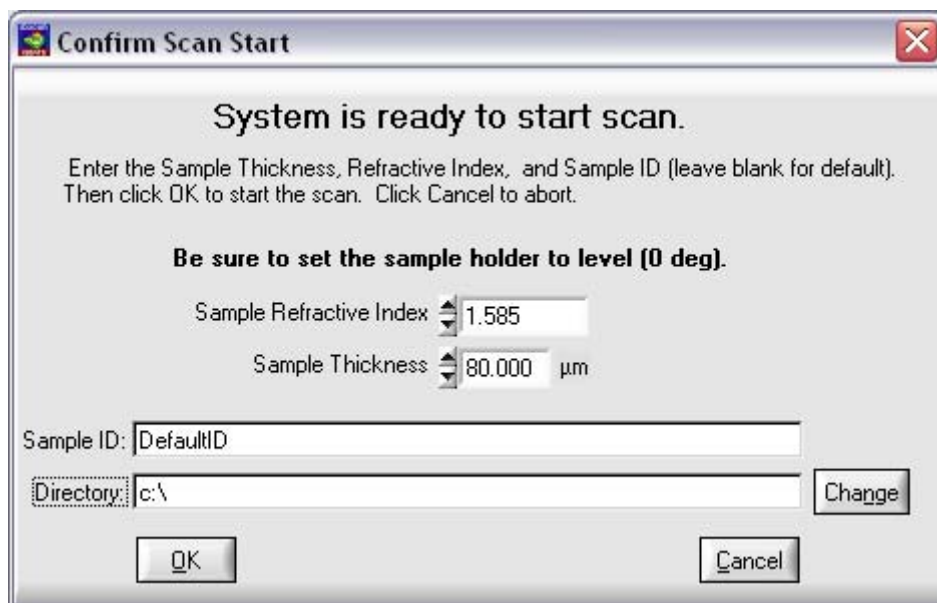

Figure 4.24 Confirm Scan Start Dialogue Box
2. After the hardware is ready to scan, the Confirm Scan Start dialog box appears as shown in Figure 4.24. Enter the sample ID, or leave it blank for "DefaultID", as described later in this chapter.
You can change the colors associated with various ranges of birefringence magnitude data by double-clicking on the legend then editing the legend settings. See Figure 4.24 for the legend settings window.